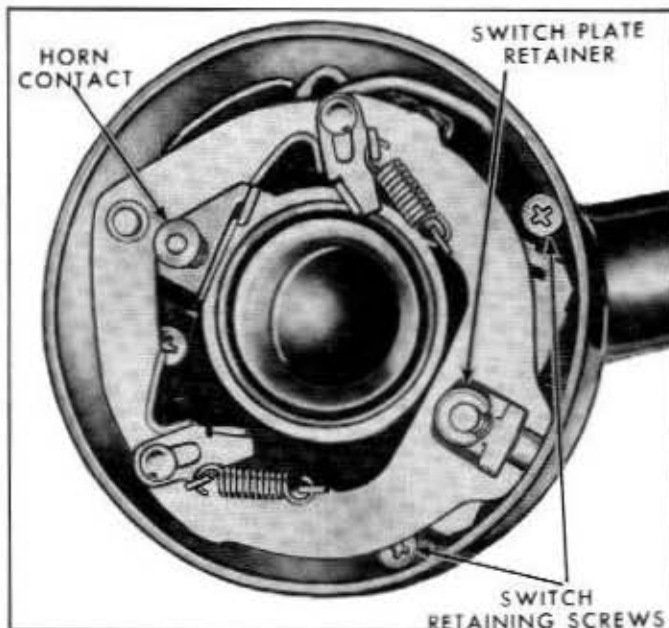

Fig. 10-16—Horn Button Contact and Turn Signal Switch Plate—(60C-7645)
5. Remove the turn signal switch to steering column retaining screws and pull the switch away from the steering column flange. See figure 10-16.
5. Remove the turn indicator lever, remove the turn indicator mechanism retaining screws (figure 10-16), and lift the mechanism to one side.